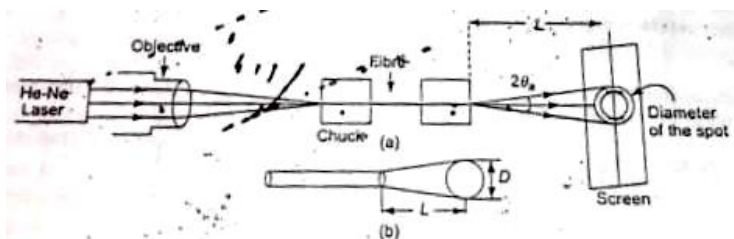

Fig. 8.1 Setup of optical fibre for measuring NA
In a short length of optical fiber, ideally a ray entering at an angle i at the input end comes out at the same angle i from the output end. Therefore, the emerging rays from the output end of the fiber will also appear as a cone of semi-angle i . It is thus easy to make measurements on this end of the fiber to determine the numerical aperture of the fiber. If the emerging rays from the output end of the optical fiber make a spot of diameter D on a screen kept at a distapce L from the output end of the fiber, then as obvious from Fig. 8.1(b),
1. Insert both the ends of the optical fibre in the fibre optic chucks mounted in the uprights on an optical bench as shown in the figure 8.1(a).